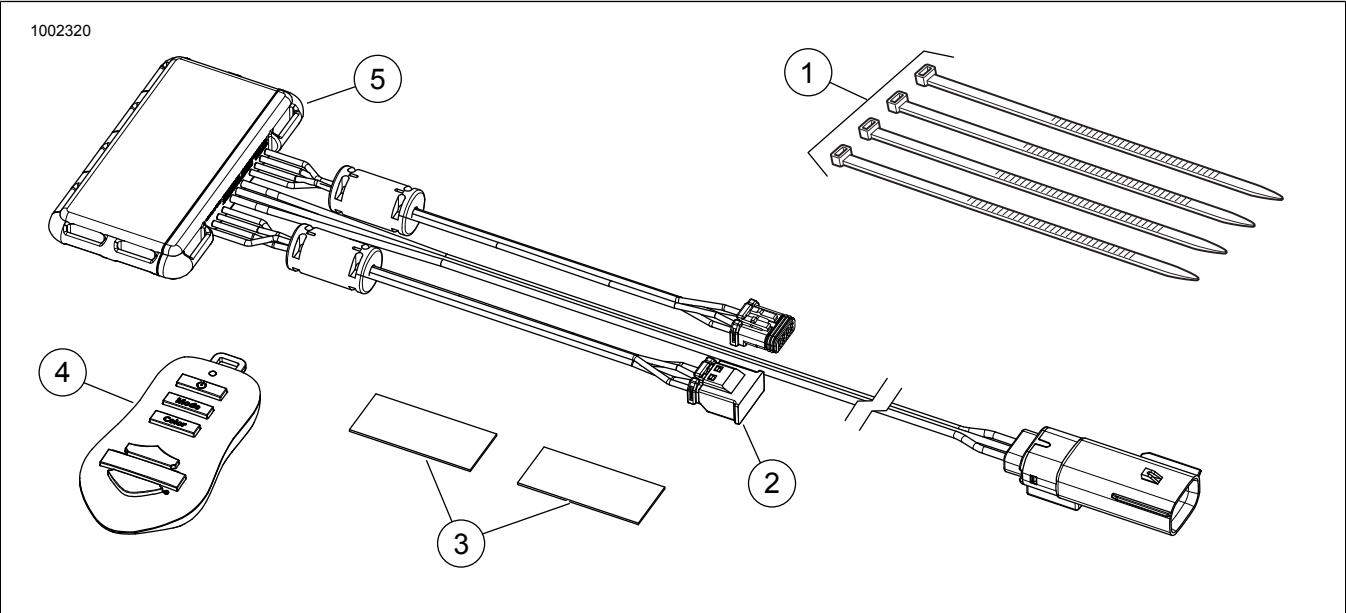

Figure 2. Service Parts, Spectra Glo Controller Kit
See Figure 2. and Table 1.
- 5. See Figure 2. Choose a suitable location for mounting the controller (5) under the seat or behind the left side cover. Use two-sided tape (3) provided in kit, or cable straps (1).